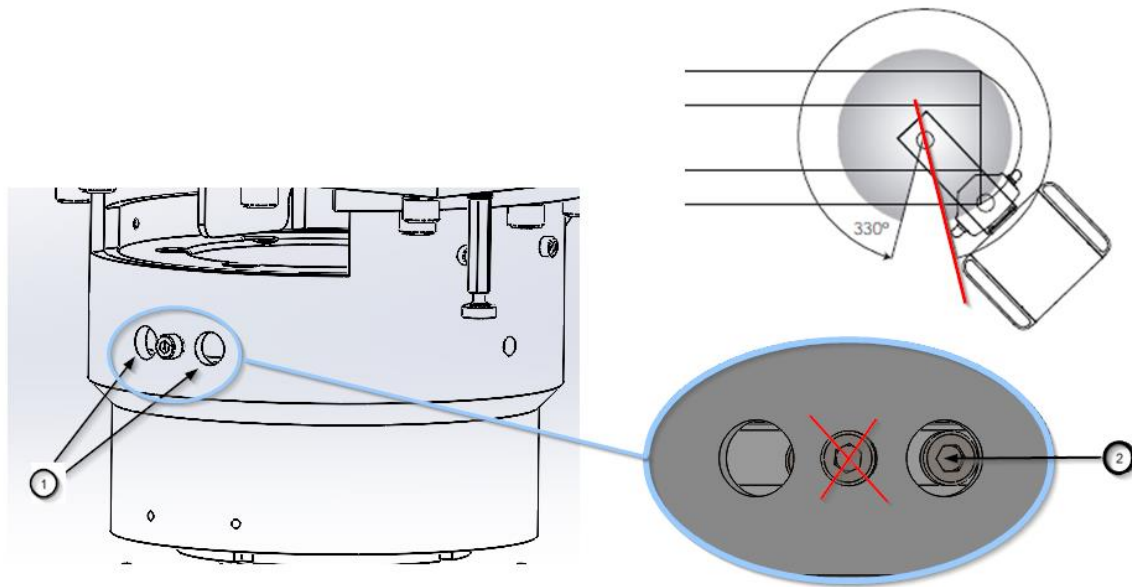

Fig.19 Schematic diagram of rotation control
Do not unscrew the central Allen screw (marked with a red cross in figure 19), otherwise the carousel will rotate freely and the rotation can no longer be limited.
- To adjust the right pivot stop on the column, move the column to its maximum position as shown in the top right of figure 19.
The stop socket head cap screw ② will then appear as shown in the lower part of figure 19 (detail at the bottom right of the figure).
- Unscrew and remove the Allen screw ②.